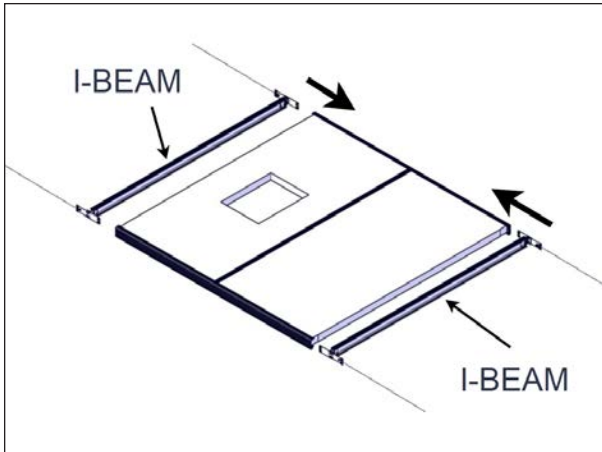
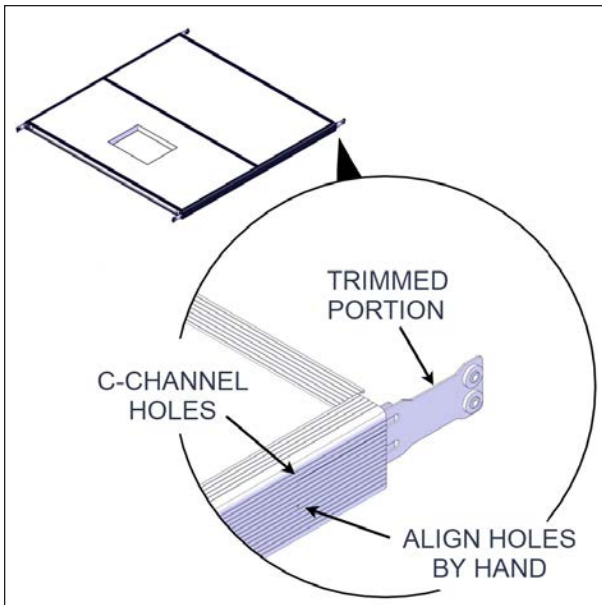

FIGURE 43: INSTALL BOTH I-BEAMS WITH LONG I TO C CONNECTION PLATES
FIGURE 44: TRIMMED PORTION ORIENTATION
- Install both I-beams with the long I to C connection plates. Ensure the trimmed portion of the I to C connection plate faces toward the end of the cover, see Figure 43 and Figure 44.
- Align by hand the C-channels (left and right sides) in such a manner that the I to C connection plate holes are visible behind the C-channel, see Figure 44.